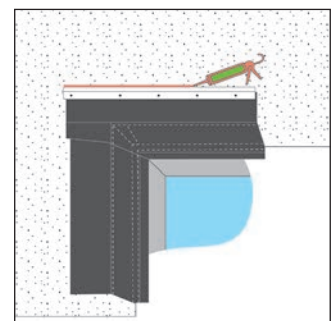

Fig 4: Final Stage - Safety Trim Sealing with OT015 Paste Adhesive
- Seal the upper edge of the trim at an angle of 45° using OT015 Paste Adhesive. (see Fig. 4)